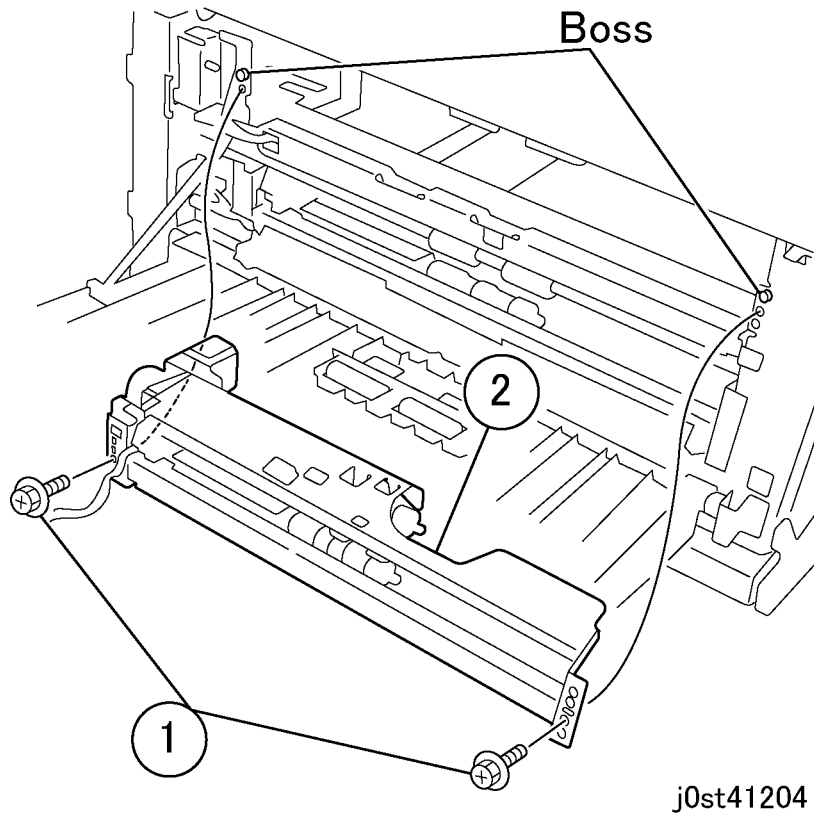

Figure 6 Removing the Tray 3 Feeder (j0st41204)
8. Remove the Tray 3 Feeder. (Figure 6)